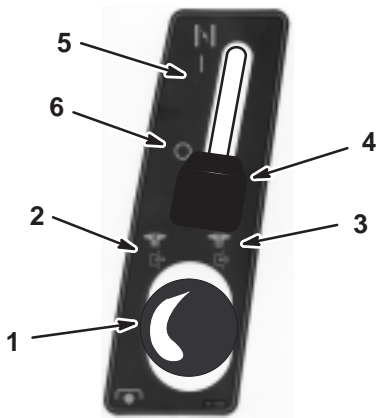
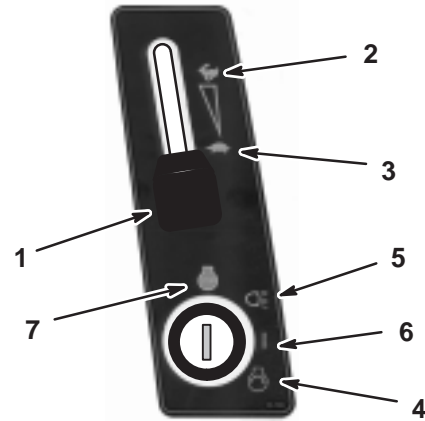

Figure 10
Figure 11
4. Disengage the blades (PTO). Refer to Figure 10.
5. When starting a cold engine, shift the choke lever to the On position (Fig. 10).
6. Shift the throttle control lever to the Slow position (Fig. 11).
7. Turn the ignition key clockwise and hold it in the Start position (Fig. 11). When the engine starts, release the key.
8. After the engine starts, slowly shift the choke lever to Off (Fig. 10) and then shift the throttle control lever to Fast (Fig. 11).
1. Move the throttle control lever to Slow (Fig. 11).
2. Turn the ignition key to Off (Fig. 11).